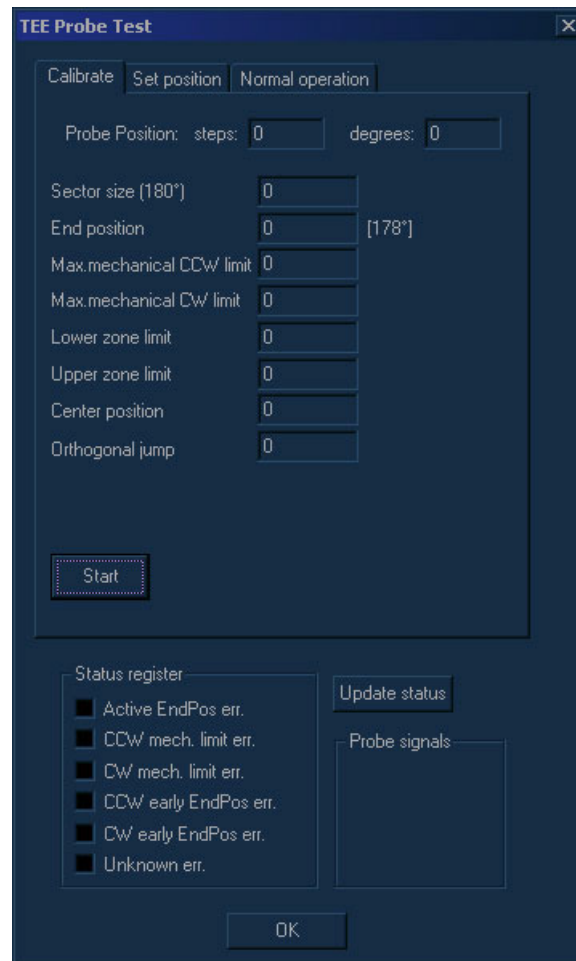

Figure 7-35 TEE Probe Test Dialog Box
- 4) Trackball to the **TEE Probe Control** button and press **Select**. The *TEE Probe Test* dialog box is displayed, as shown in Figure 7-35, with all the probe settings.